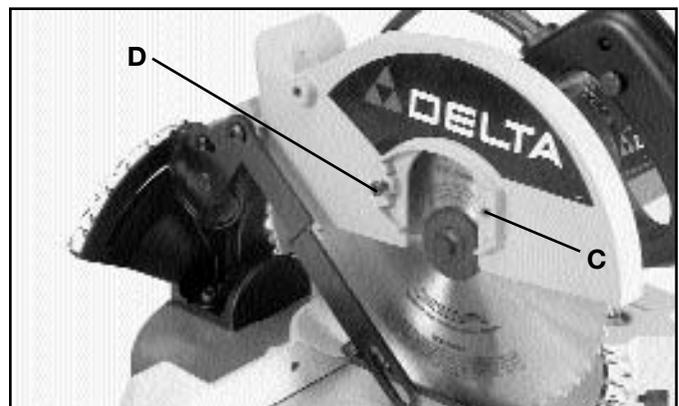

Fig. 6
2. Loosen screw (D) Fig. 6, and remove screw (C)